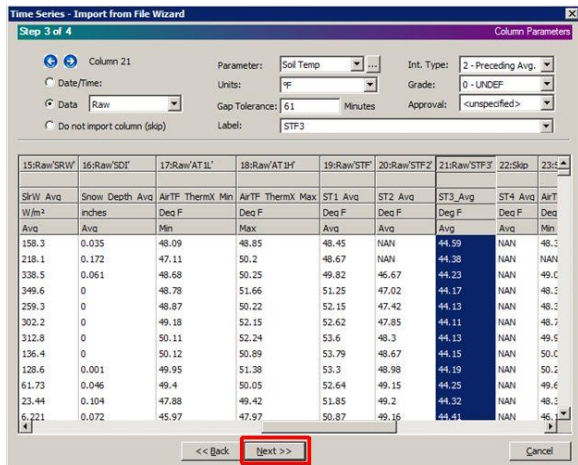

Figure SOP 11-12. Import from File Wizard, step 3 (cont.). After each column has been defined, the Next button becomes available.
2. Each column needs to be defined or skipped before step 3 of the wizard is complete (Figure SOP 11-12). Continue defining the columns of the raw data file according to Table 1. When all columns have been configured, click Next.